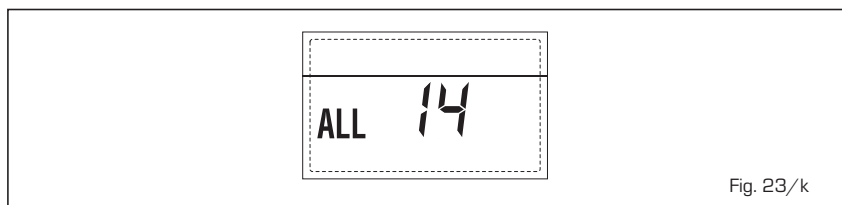

Fig. 23/k
- **FAN ERROR "ALL 15" (fig. 23/m)**